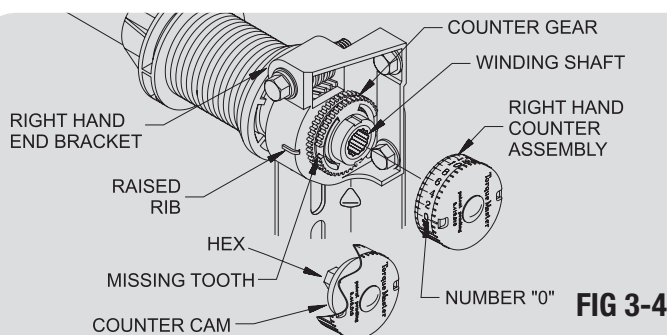

FIG 3-4
- 2 On right side install counter gear with missing tooth towards outside, away from right bracket. Gear snaps in place. Align "0" on right counter assembly with raised rib on right bracket and align hex of counter cam with winding shaft. Press counter assembly against counter gear until it locks in place - **FIG 3-4**